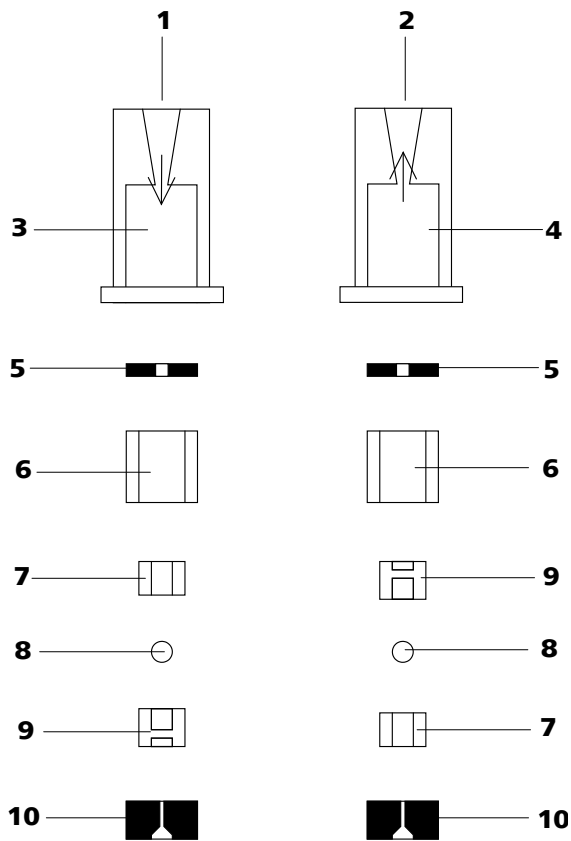

Figure 47 Components of the inlet valve and outlet valve
- The inlet valve and the outlet valve consist of the same, just differently arranged components (see Figure 47, page 90).
Reassemble valve components *according to figure 47, page 90*.
- Lay the other valve components above another in the correct sequence (*see Figure 47, page 90*).
If this is not the case, the valve has to be dismantled again and be assembled correctly (see Figure 47, page 90).